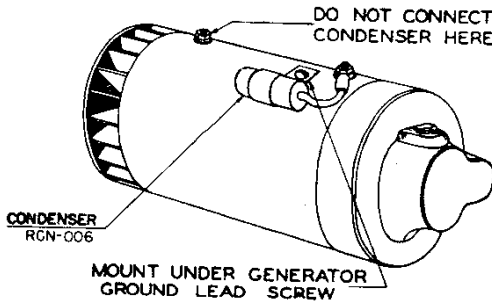

Fig. 5. Generator Noise Condenser
4. Install the Generator Condenser under the ground screw on the auto battery motor generator, as shown in Figure 5. Connect its wire lead to the generator armature post.